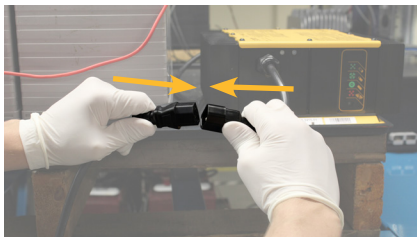

Figure 2: Connect AC power to the charger.
8. Make sure DC power is disconnected, then reconnect AC power (see Figure 2).